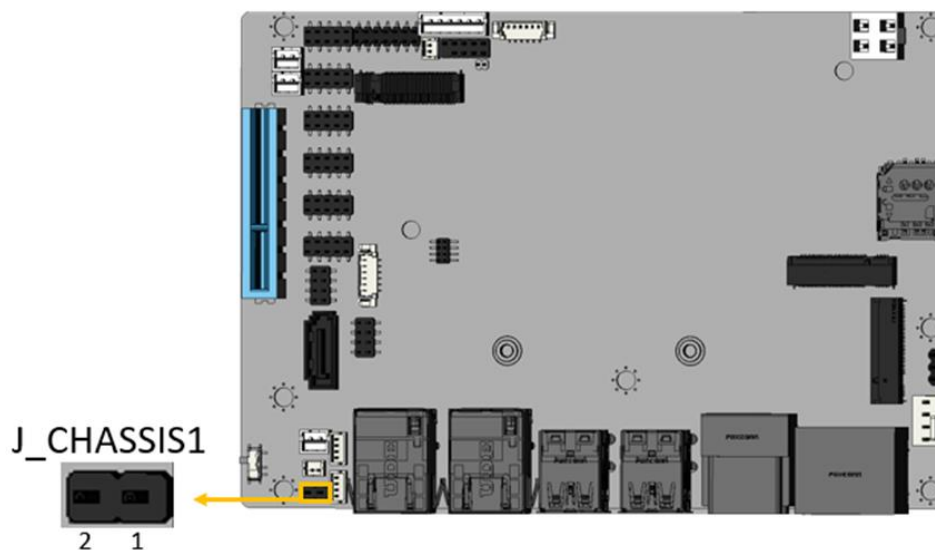

Figure 3-4: Chassis Intrusion Location
- CN Location:** See **Figure 3-4**